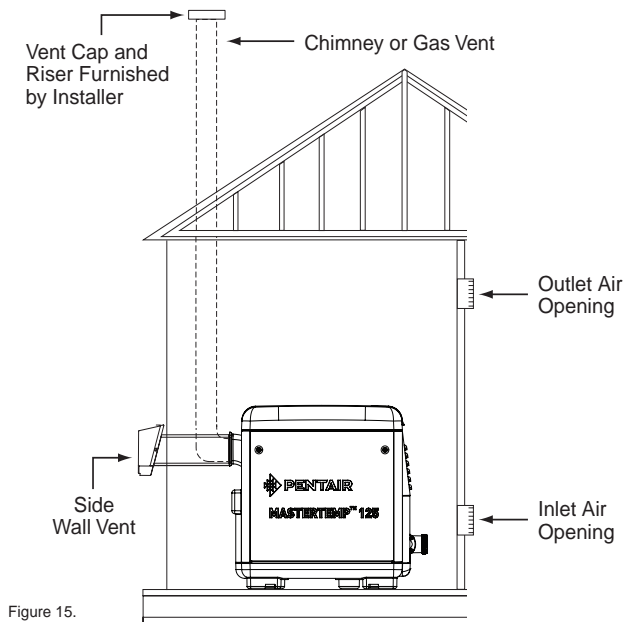

Figure 15.
HORIZONTAL OR VERTICAL VENTING - POSITIVE PRESSURE (See Figures 15, 16, and 17) (Category III)
6. **Vent Termination – Vertical** (See Figures 15 and 16), for height of vent termination above the roof. Use an "Approved" vent terminal specified by local and national codes and your manufacturer's instructions. A roof termination must be vertical. In Canada, the Vent Cap location shall have a minimum clearance of 4 feet (1.2M) horizontally from electric meters, gas meters, regulators, and relief openings.